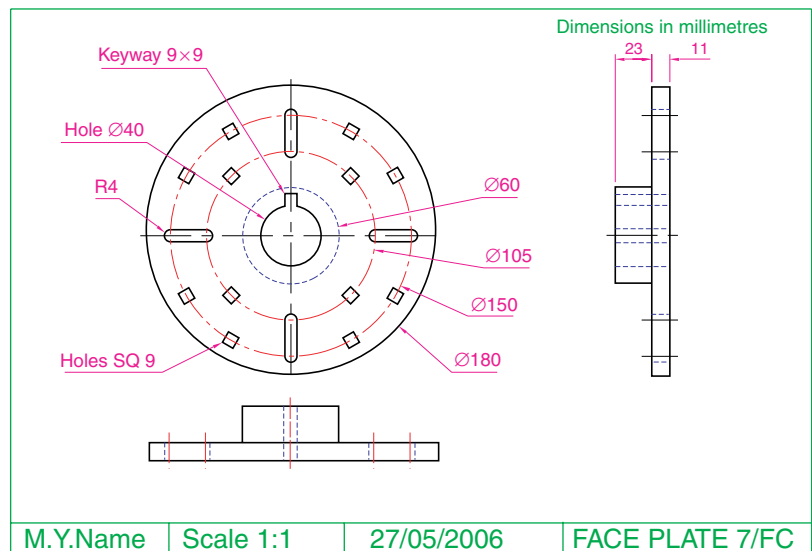
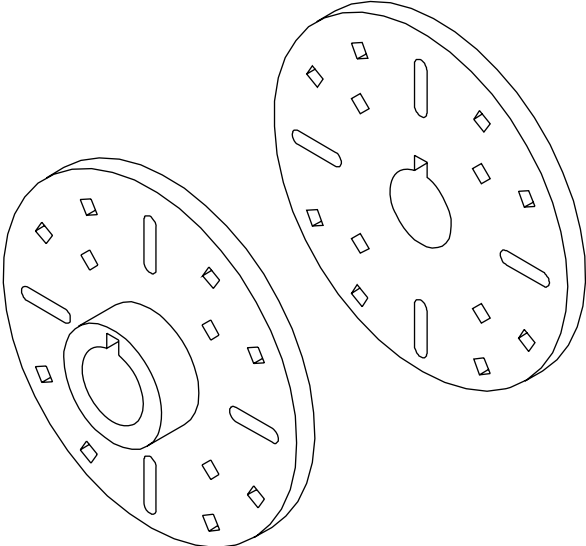

Fig. 14.18 Exercise 5 – dimensions
Fig. 14.19 Exercise 5
- Working in a **Three: Left** viewport setting, construct a 3D model of the faceplate to the dimensions given in Fig. 14.18. With the **Mirror** tool, mirror the model to obtain an opposite facing model. In the **Isometric** viewport call the **Hide** tool (Fig. 14.19).